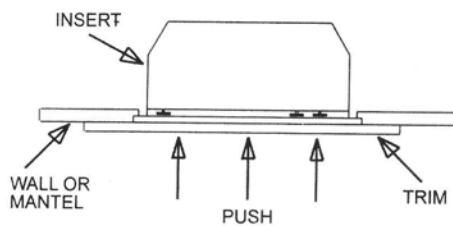

FIGURE 6
4. Push the Fireplace into place so that the trim is against the finished Mantel Surround or wall surface.(FIGURE 6)